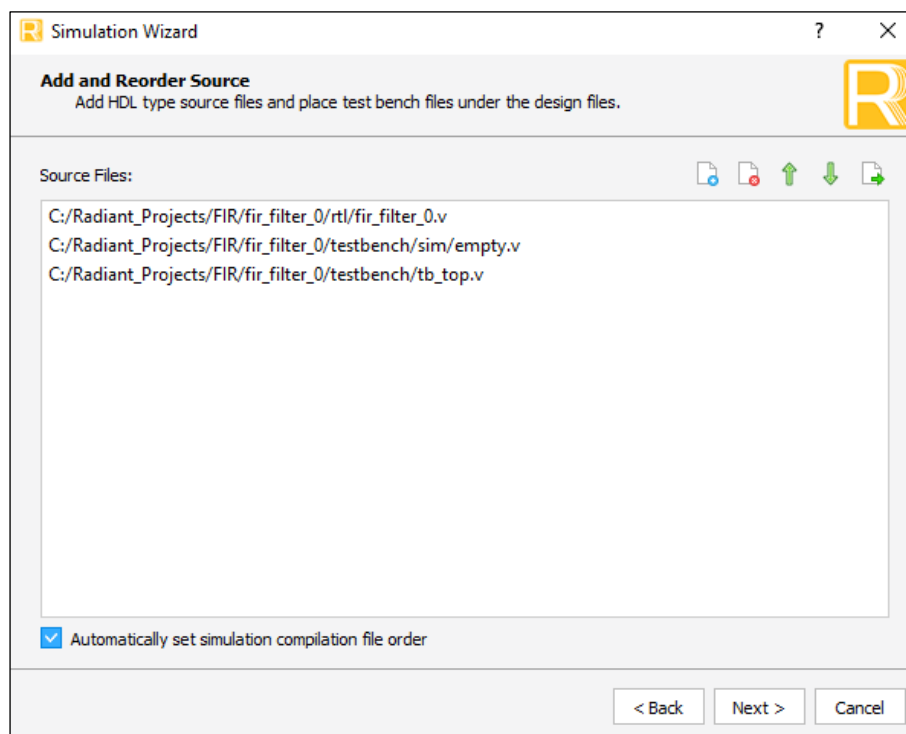

Figure 3.5. Adding and Reordering Source
- Click **Next** to open the **Add and Reorder Source** window, as shown in Figure 3.5.